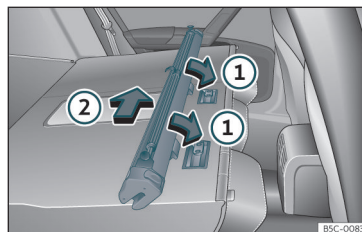

Fig. 123 Assembling the net partition in the rear seat backrests.
- Place the net casing in the rail slots in the direction of the arrows»» **Fig. 123 ①**.
- Push the casing towards the left side of the vehicle in the direction of arrow»» **Fig. 123 ②** and as far as it will go.
- Pull the net casing out approximately 5 cm in the opposite direction to the arrow»» **Fig. 123 ②**.
- Remove the casing from the rails by pulling in the opposite direction to the arrows»» **Fig. 123 ①**.